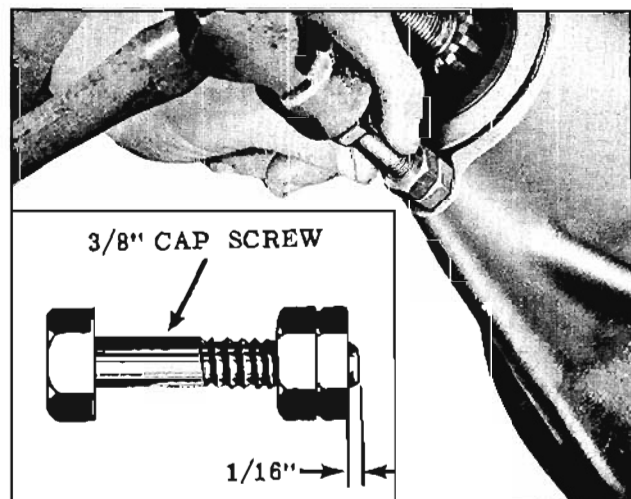

Fig. 10-12 Installing Cup Plug
5. Coat OD of a new plug with sealer, Part No. 557622, then drive plug into oil drain galley until it is **FLUSH** with carrier. (Fig. 10-12)